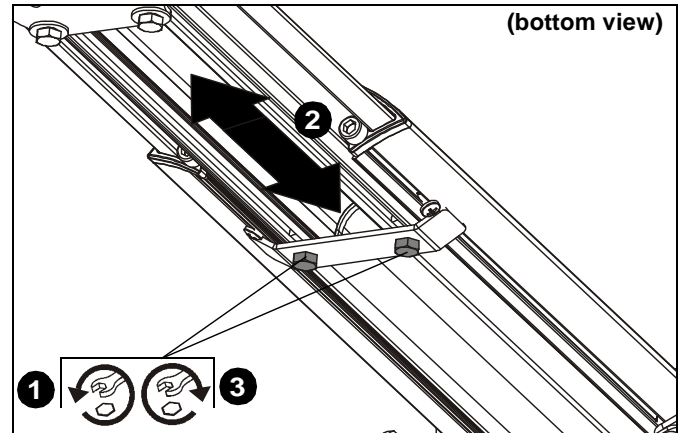

Figure 38
1. Loosen two bolts holding stop bracket in place on underside of short throw projector mount. (See Figure 38)
2. Adjust mount to desired extension length. (See Figure 38)
3. Tighten two bolts holding stop bracket to secure mount in desired position. (See Figure 38)